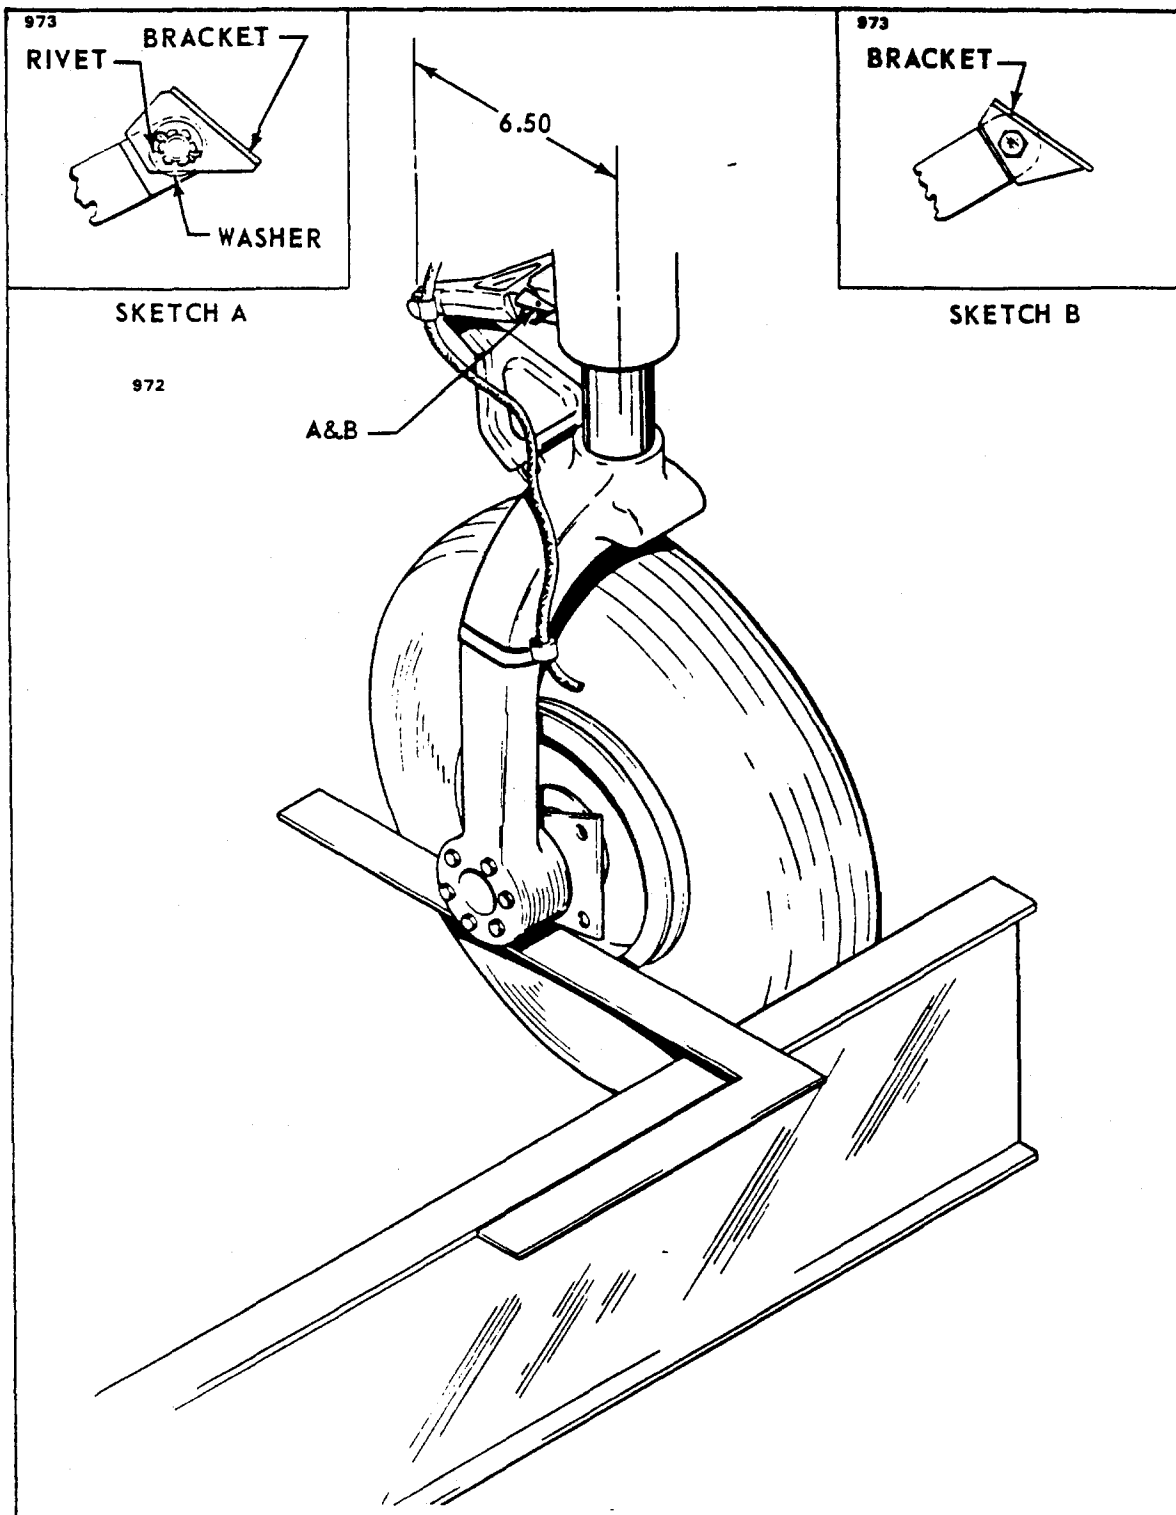

Figure 7A-10. Aligning Main Gear.
- a. Place a straightedge no less than twelve feet long across the front of both main landing gear wheels. Butt the straightedge against the tire at the hub level of the landing gear wheels. Jack the airplane up just high enough to obtain a six and one-half inch dimension between the centerline of the strut piston and the centerline of the center pivot bolt of the gear torque links. (Refer to Figure 7A-10.) Devise a support to hold the straightedge in this position.
- b. Set a square against the straightedge and check to see if its outstanding leg bears on the front and rear side of the brake disc. (It may be necessary to remove the brake assembly to have clear access to the disc.) (Refer to Figure 7A-10.) If it touches both forward and rear flange, the landing gear is correctly aligned. The toe-in for the main landing gear wheels is $0 \pm 1/2$ degrees.